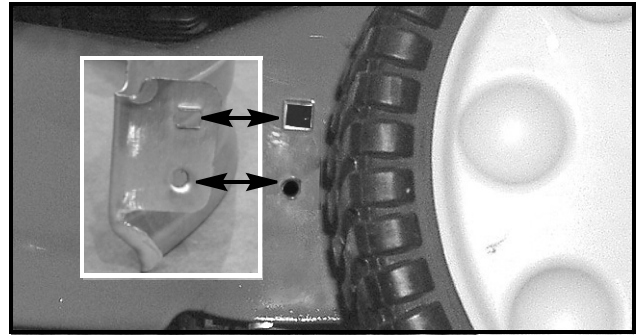

FIGURE 5
11. Compare the hole pattern on the new baffle with the hole pattern in the deck. Do this for the left (LH) side and right (RH) side of the deck.
12. On the right (RH) side, the hole pattern in the deck matches the hole pattern of the new baffle. See Figure 5.